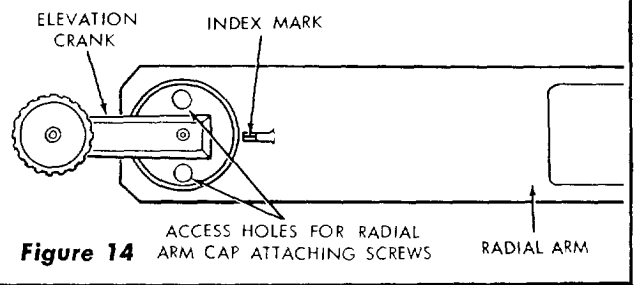

Figure 14
- aligned with index mark on radial arm. (See figure 14.) If not aligned, proceed as follows:
- a. Rotate the elevation crank to a position that will locate the two access holes over screw heads of radial arm cap attaching screws. (See figure 14.)